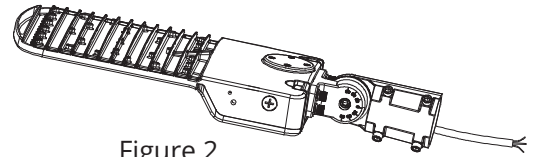

Figure 2
- 3 Attach the slip fitter half from Step 2 to the fixture with provided hardware and pass the cord through the other slip fitter half. (Figure 2)
- 4 Screw the slip fitter together and adjust angle as required. (Figure 2)